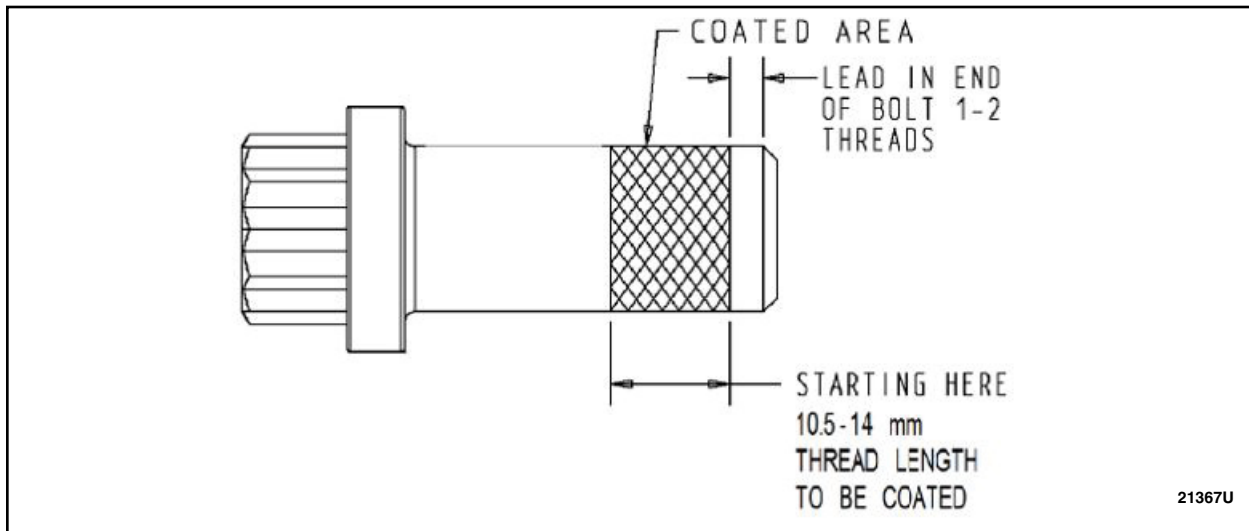

FIGURE 10
19. Inspect the original driveshaft flange to pinion flange bolts for rust in the threads and replace if rusted or damaged. Clean threads of the original driveshaft flange to pinion flange bolts with a wire brush and coat the threads with LOCTITE 243 Blue Medium Strength Threadlocker or equivalent. See Figure 10.